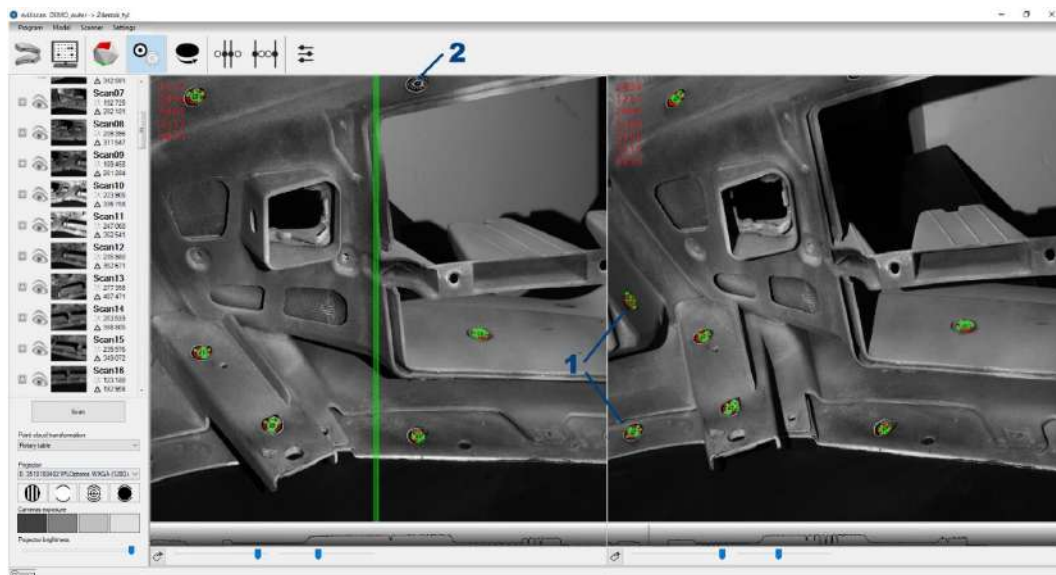
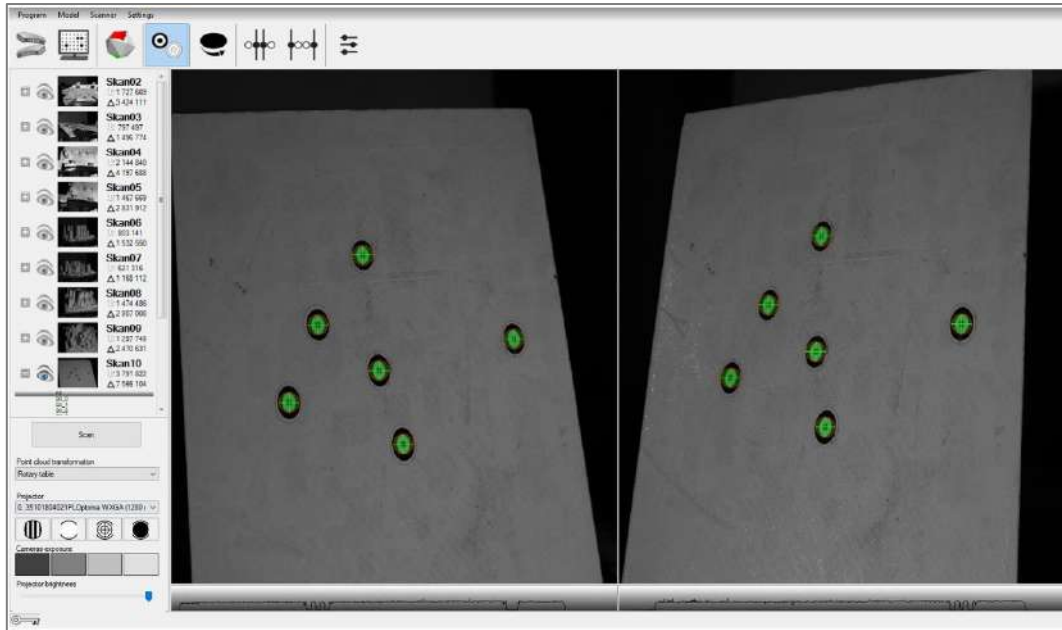

Fig. 5-60. Presentation of detected unique markers on the scan preview.
Fig. 5-61. Presentation of detected non-unique markers in the picture.
In order for a marker to be used at the aligning stage, it must be visible and correctly identified by both left and right sensors (Fig. 5-60.). For example, in the picture below, the markers (1), visible only by the right sensor, and the marker (2) not recognized (not highlighted) on the left sensor and not visible by the right sensor will not be used for aligning. In the picture Fig.5-61. all markers have been correctly identified and will be used in aligning.